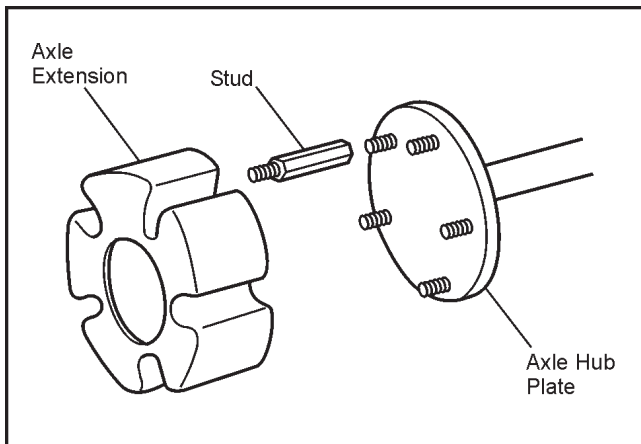

Figure 11-5. Installing the Axle Extensions.
2. Install the extension studs on all of the vehicle wheel studs and tighten securely. See Figure 11-5.